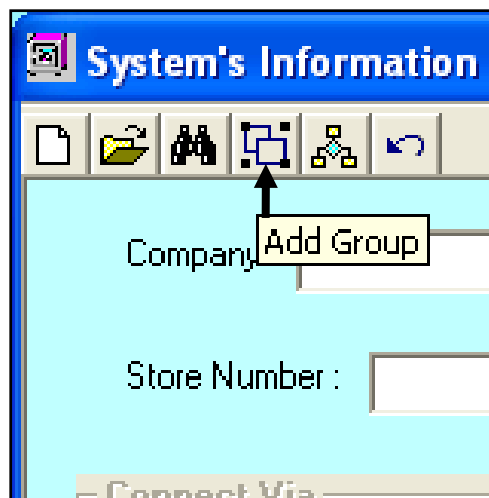

Fig. 7.8
- 2) Select the **Add Group** icon at the top of the System's Information window (Fig. 7.8)